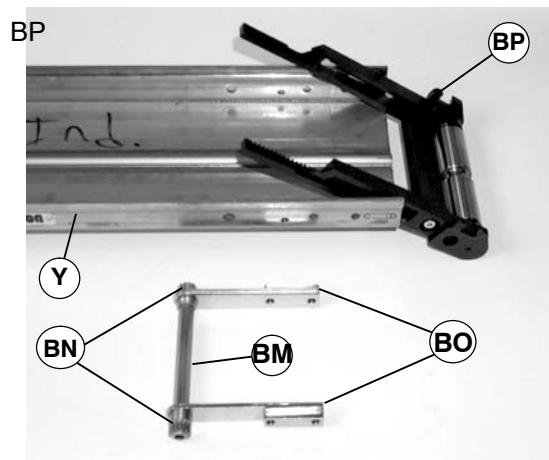

Figure 36
4. Remove two pinion ends (BN of Figure 36), clamp blocks (BO), hex pinion (BM) and tail assembly (BP) from conveyor (Y).